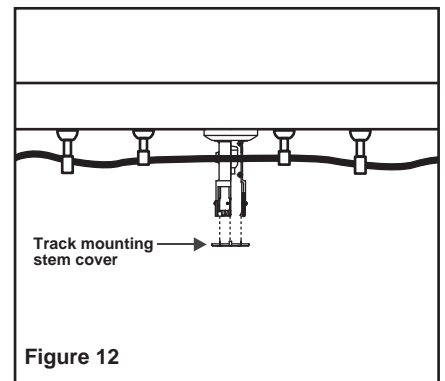

Figure 12
7. Slide the track support stem cover to the track mounting stem and secure. (Fig. 12)